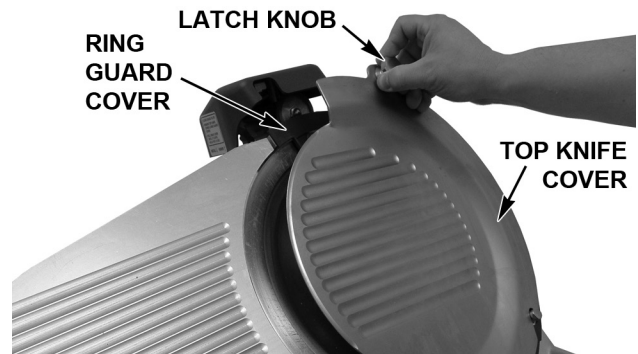

Fig. 24
- Position the Top Knife Cover (Fig. 24) on the lower two Guide Pins and lower the Latch Knob until the magnet secures the Top Knife Cover in place.